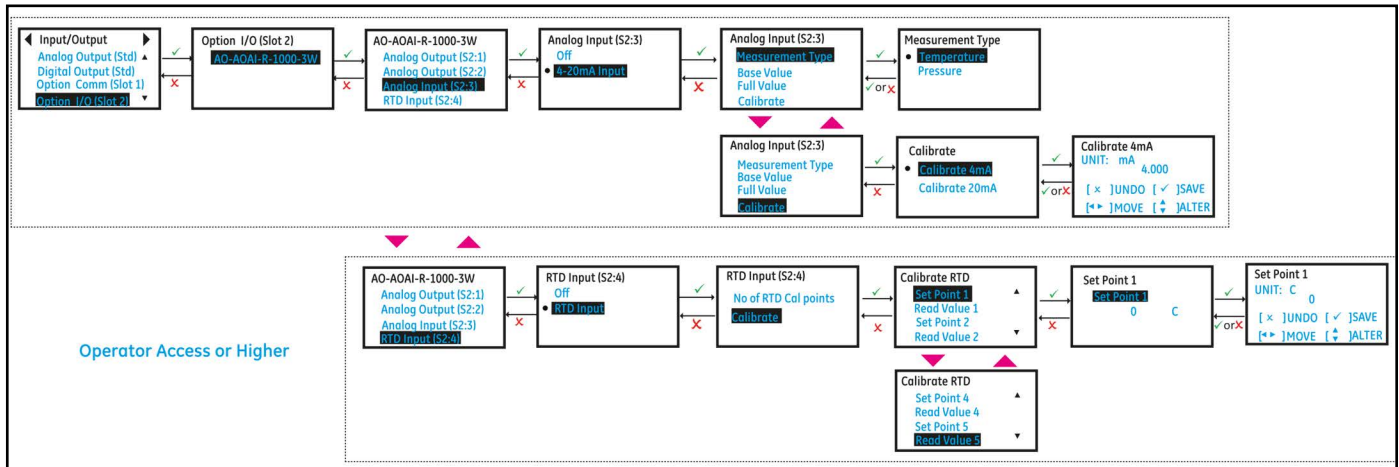

Figure 39: Setting up Option I/O Analog Input/RTD Input
- 4. If you are connecting an Analog Input, choose **[4-20mA]** option. *Figure 39* below, shows the options available.
2. Use steps as in Section 3.3.2, "Log-in and Primary Pages" to navigate to the *Input/Output* settings page. Refer to Figure 39 above, highlight **[Option I/O (Slot 2)]** and press **[ENTER]**.